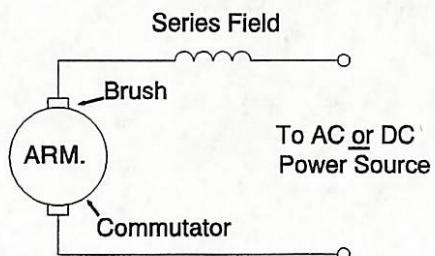

Figure 13.
**Universal Motor.** A universal motor operates on either AC or DC, as shown in Figure 13. It is constructed as a series-wound DC motor. This arrangement is the only type which will operate with AC applied. Series wound DC motors have windings with low inductance due to having few turns of large-diameter wire. Therefore, these windings offer a small resistance to alternating current flow. The universal motor has windings similar to those of series wound DC motors.